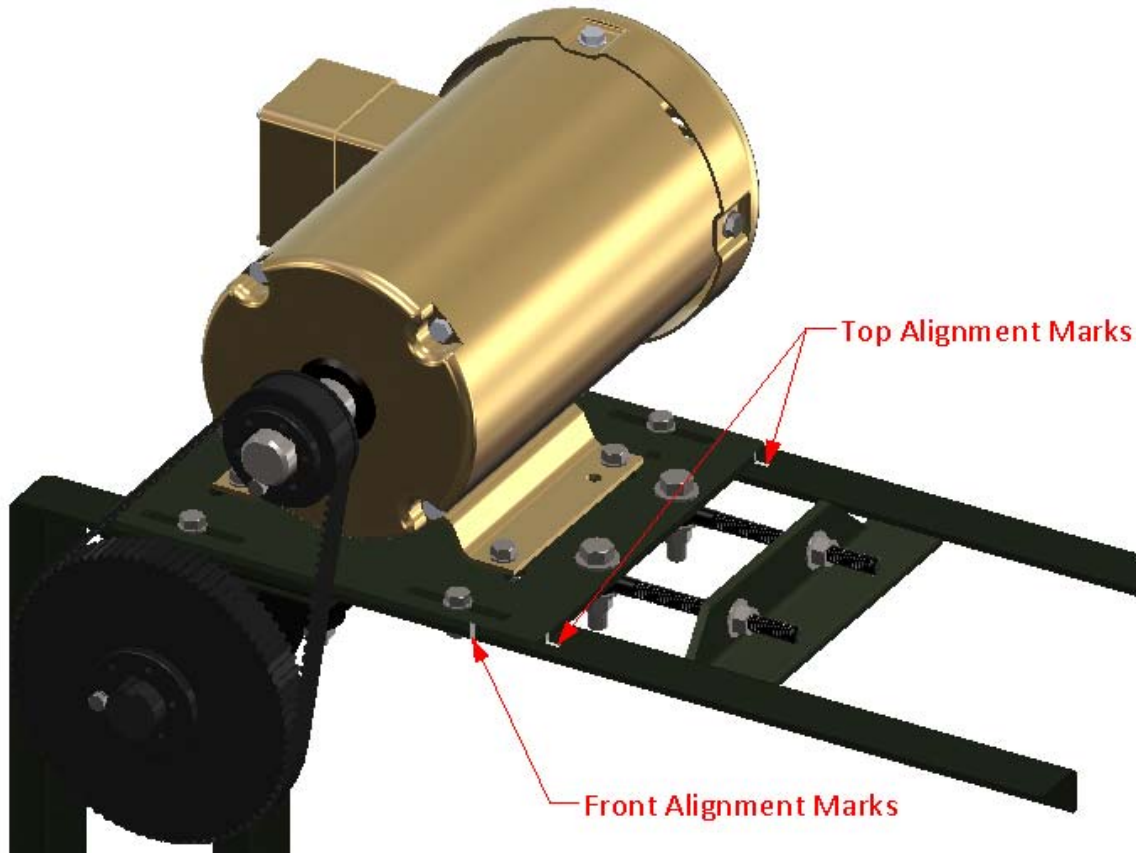

Figure 2: Alignment marks that are visible from above the motor frame
25. Re-align the (4) motor positioning marks as shown previously in Figures 2 & 3 by turning the nuts on the motor adjustment rods.